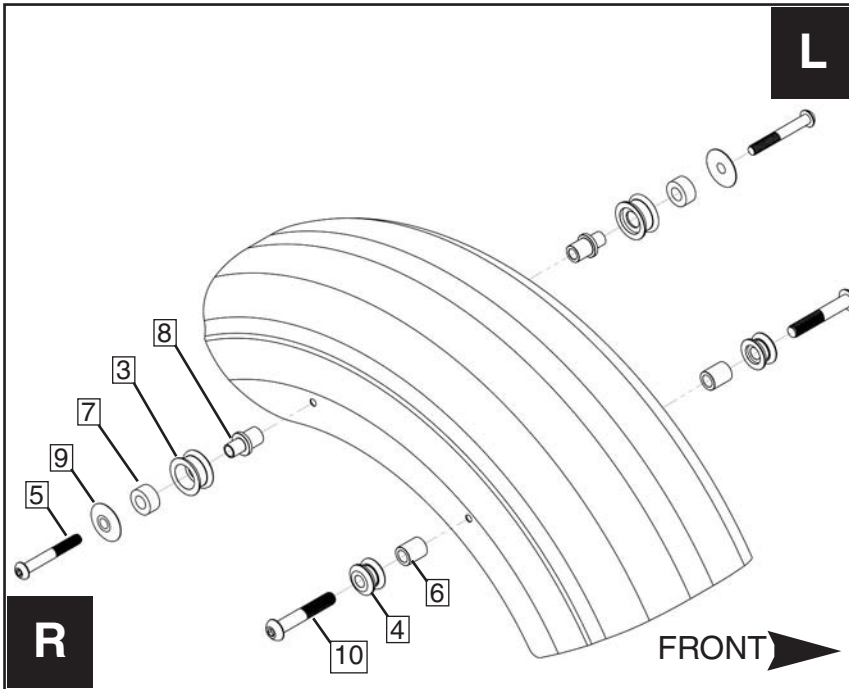

Figure 1
2. Assemble front and rear spools into the right fender. Do not fully tighten. This will allow some movement which aids in the side plate installation. **(5 and 6mm Hex Wrench) Figures 1 and 2**